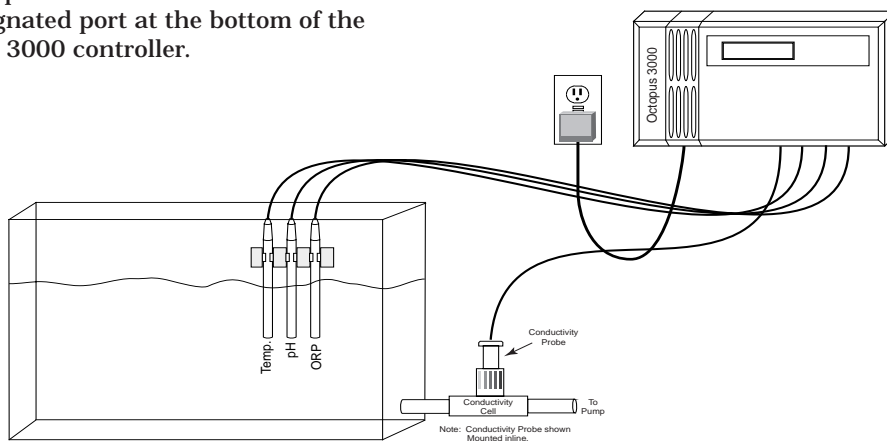

Figure 2.2 • In-Filter Location Using Probe Mounts
- In-Filter Location Using Probe Mounts (Figure 2.2).
**In-Filter Location Using Probe Mounts**—The most common place for probe location is in the filter. Installing probes in a filter or sump requires that the probes be secured using probe mounts that attach to the back of the filter so the probes are only half-immersed in the water. (See Figure 2.2.) When placing your probes, be sure that there is adequate water flow over the probe tips at all times. The pH and ORP probes must be placed within 6 inches of the Temperature Probe.